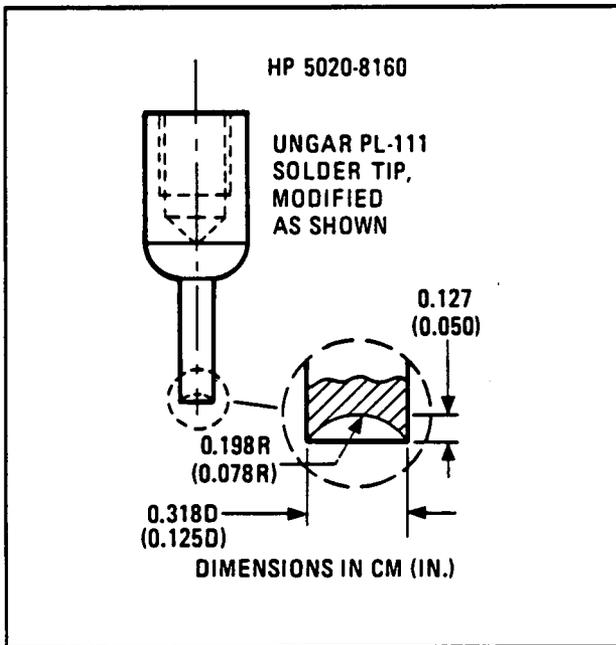
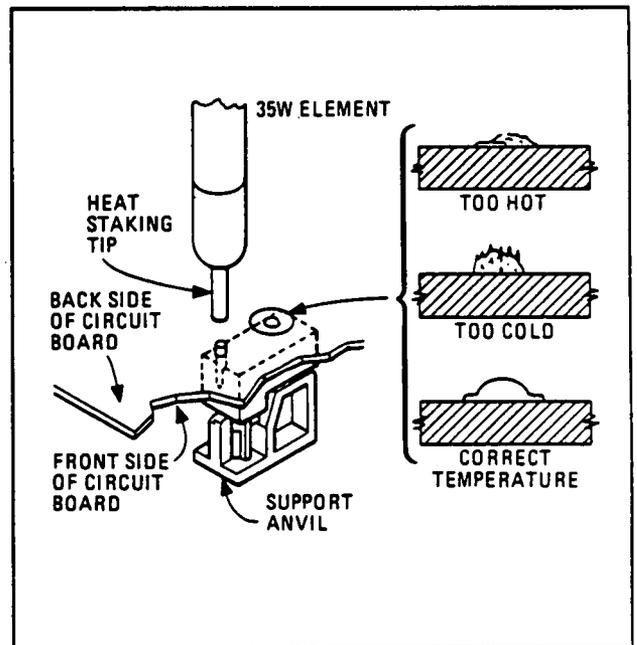

Figure 8-5. Heat Staking Tip
Figure 8-6. Typical Assembly for Heat Staking Operation
6. To assure proper switch assembly, verify that the switch is pushed firmly against the circuit board, and with the hot (440°C or 825°F) staking tip (refer to Figure 8-5) push down on each of the posts (2) of the switch. Each post should take about one second to stake. With the proper cycle, the post should turn a darker color and in about ten seconds, return to its original bright red color. The correctly staked post should have a smooth round "rivet" like top (refer to Figure 8-6).